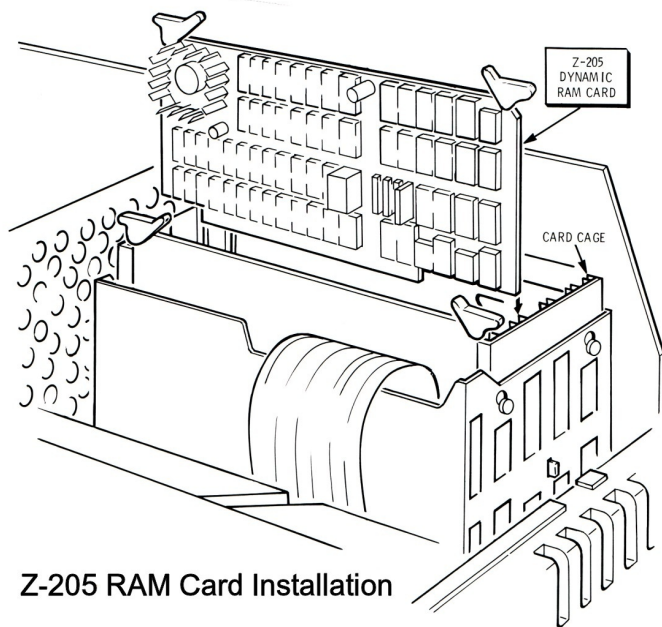

Figure 1
- Refer to Figure 1 for the following steps:
[] Insert the Z-205 Cards with the components facing the front of the computer, as shown in Figure 1. Seat each card firmly by pushing straight down.